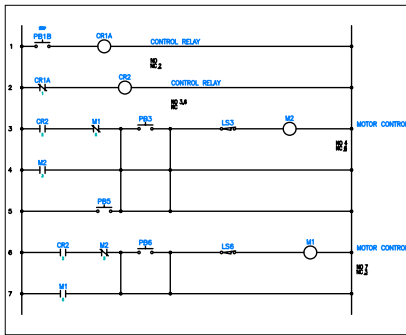

Figure 6-52 Wires inserted in the ladder
8. Press ENTER to exit the command. Figure 6-52 shows the wires inserted in the drawing.